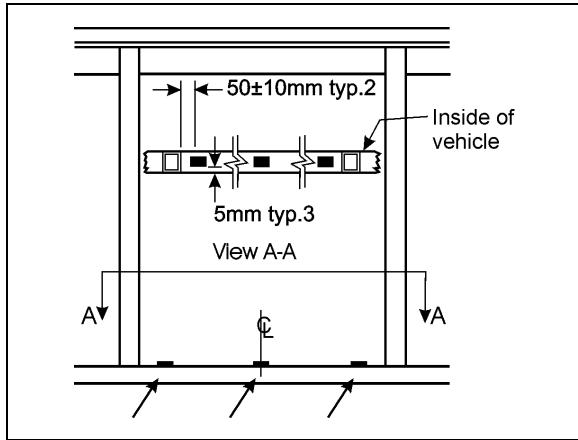

FIGURE 69: AWNING WINDOW - RUBBER BUMPER INSTALLATION
6. Glue on the structure horizontal member, 3 rubber bumpers (#790597) (see FIGURE 69) [50mm≈2"].